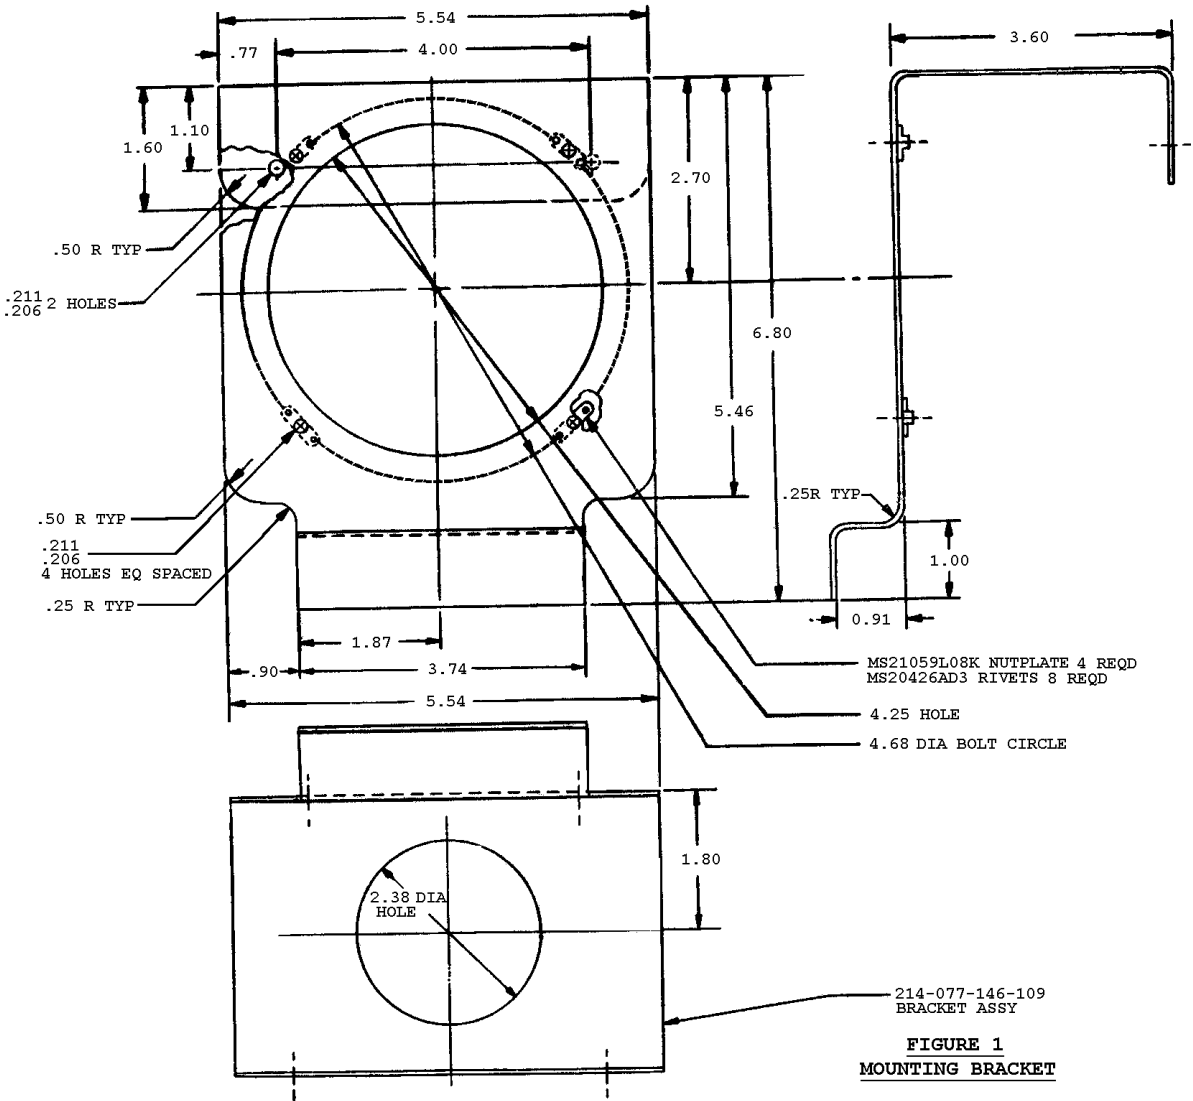

Figure 1
2. Refer to Figure 1. Fabricate mounting bracket assembly P/N 214-077-146-109 to the dimensions shown.